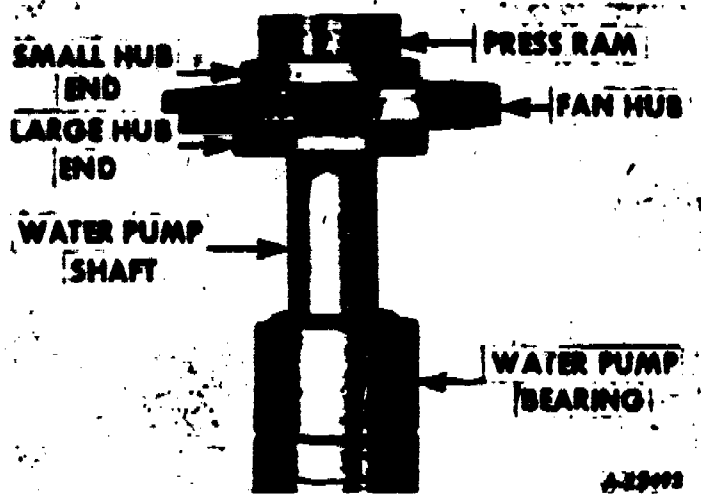

Fig. 94 - Installing Fan Hub on Shaft
2. Press fan hub on end of shaft so that the smaller diameter of hub faces to the front (Fig. 94).